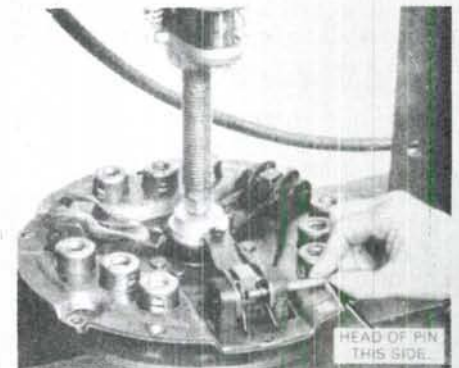

Fig. 121—Use a press to disassemble and reassemble split torque clutch. Be sure unit is assembled with head of pivot pin on leading side as shown.
**118. OVERHAUL.** To disassemble the removed pressure plate cover unit, place the assembly in a press as shown in Fig. 121 and apply only enough pressure to relieve tension on pins. Remove pins (1—Fig. 120) and lift off cover. Inspect release levers and pins for wear or damage and pressure plate for scoring, heat checks or wear at actuating pin bores. Pressure plate must not be resurfaced. It is permissible to resurface flywheel friction surface to a maximum depth of 1.0 mm (0.040 inch). An equal amount of material must also be removed from clutch mounting surface of flywheel to maintain correct clutch spring tension. Inspect splines in pto drive hub for wear or damage. Renew clutch springs if there are indications of heat discoloration or distortion.
Reassemble by reversing the disassembly procedure making sure that assembly punch marks are aligned. Install release lever pivot pins with heads leading in direction of clutch rotation as shown in Fig. 121.